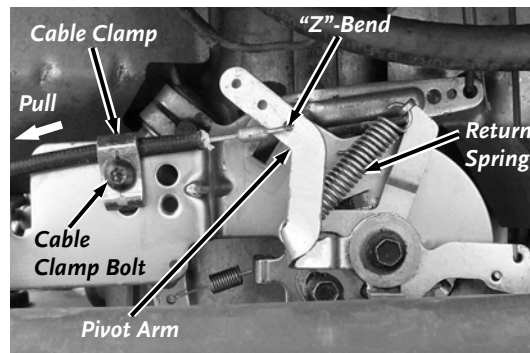

Figure 12
3. Insert the "Z"-Bend of the Cable end into the bottom hole in the Throttle Pivot Arm on the front of the Engine (**Figure 12**).